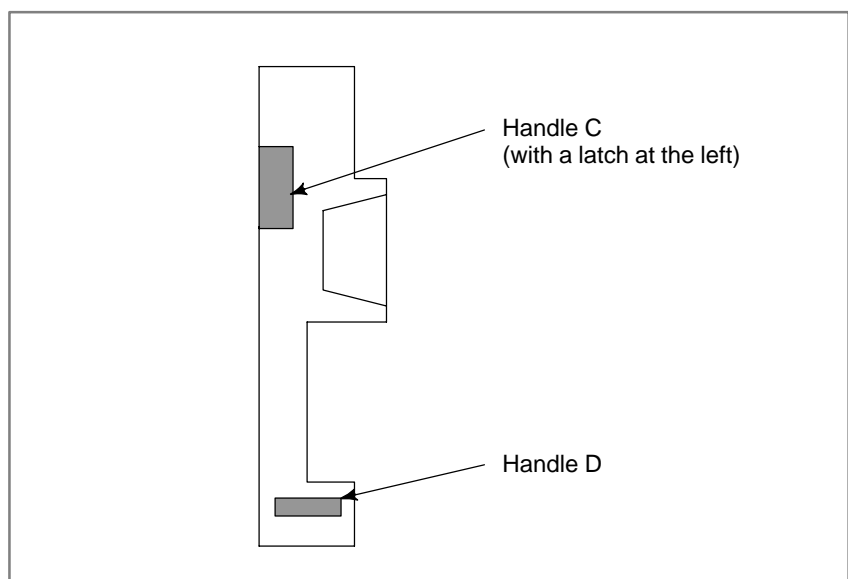

Fig. 2.6.4 Option board handles
- 2) Hold the option board by grabbing its handles, C and D. (See Fig. 2.6.4.)